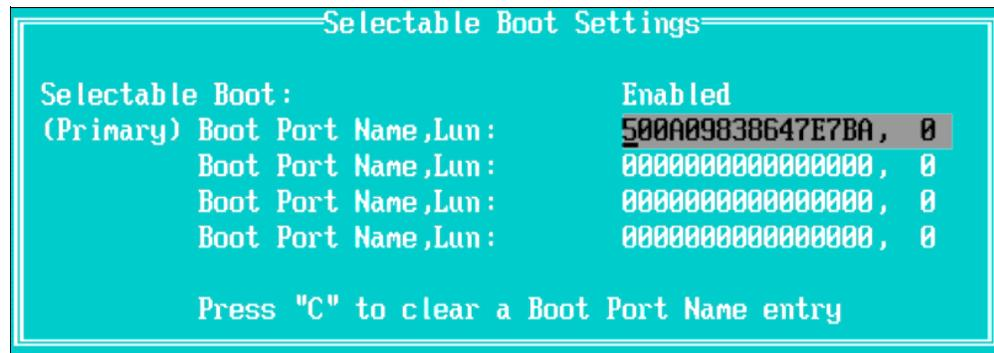

Figure 10-29 Selecting the (Primary) Boot Port Name
9. Select the entry in the (Primary) Boot Port Name, LUN field, as shown in Figure 10-29, and press Enter.